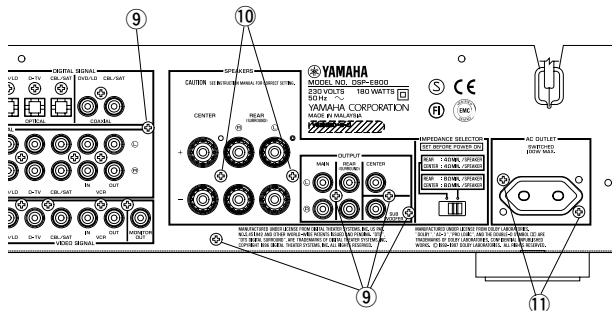

Fig. 5
- b. Remove 9 screws ( ⑨, ⑩, ⑪ ) indicated in Fig. 5.